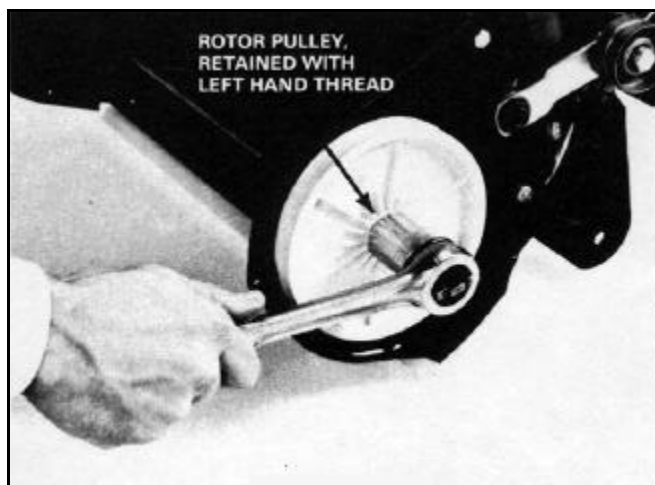

Figure 123
2. Remove the rotor pulley by placing a block of wood as a wedge between the rotor assembly and the housing. With the use of a socket and breaker bar or ratchet turn the pulley in a clockwise direction (Figure 123). **NOTE:** The pulley has left hand thread.